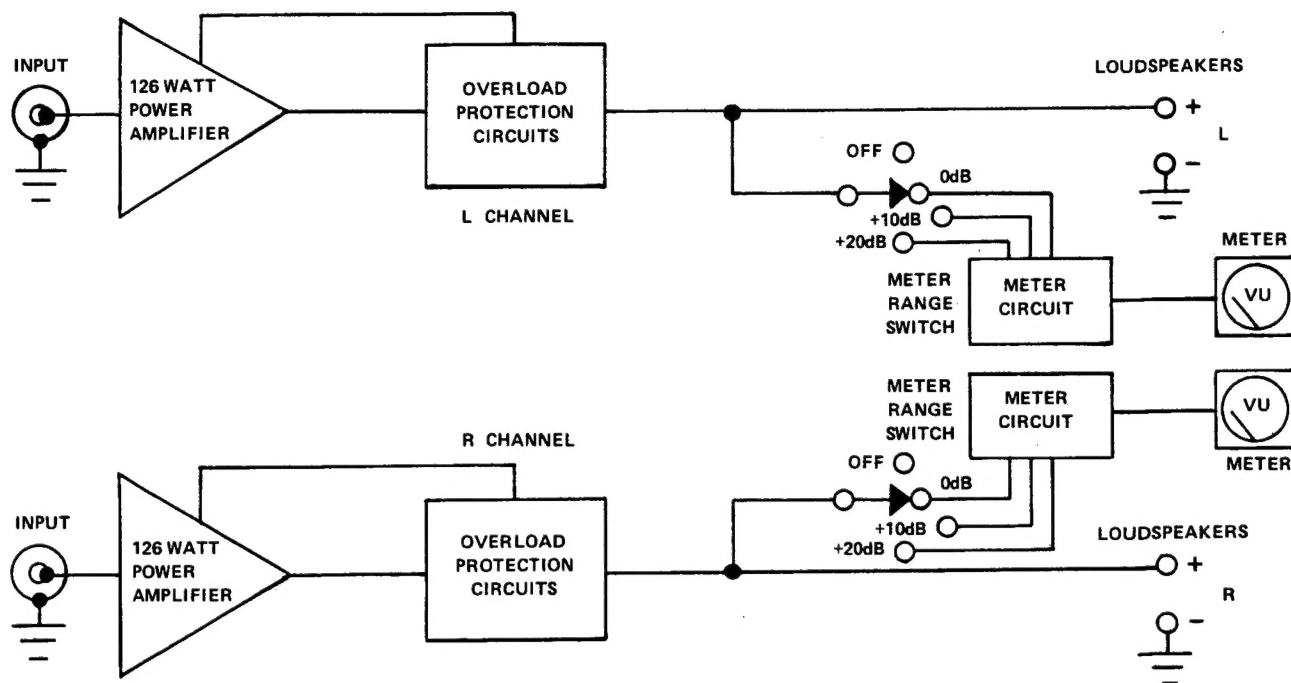
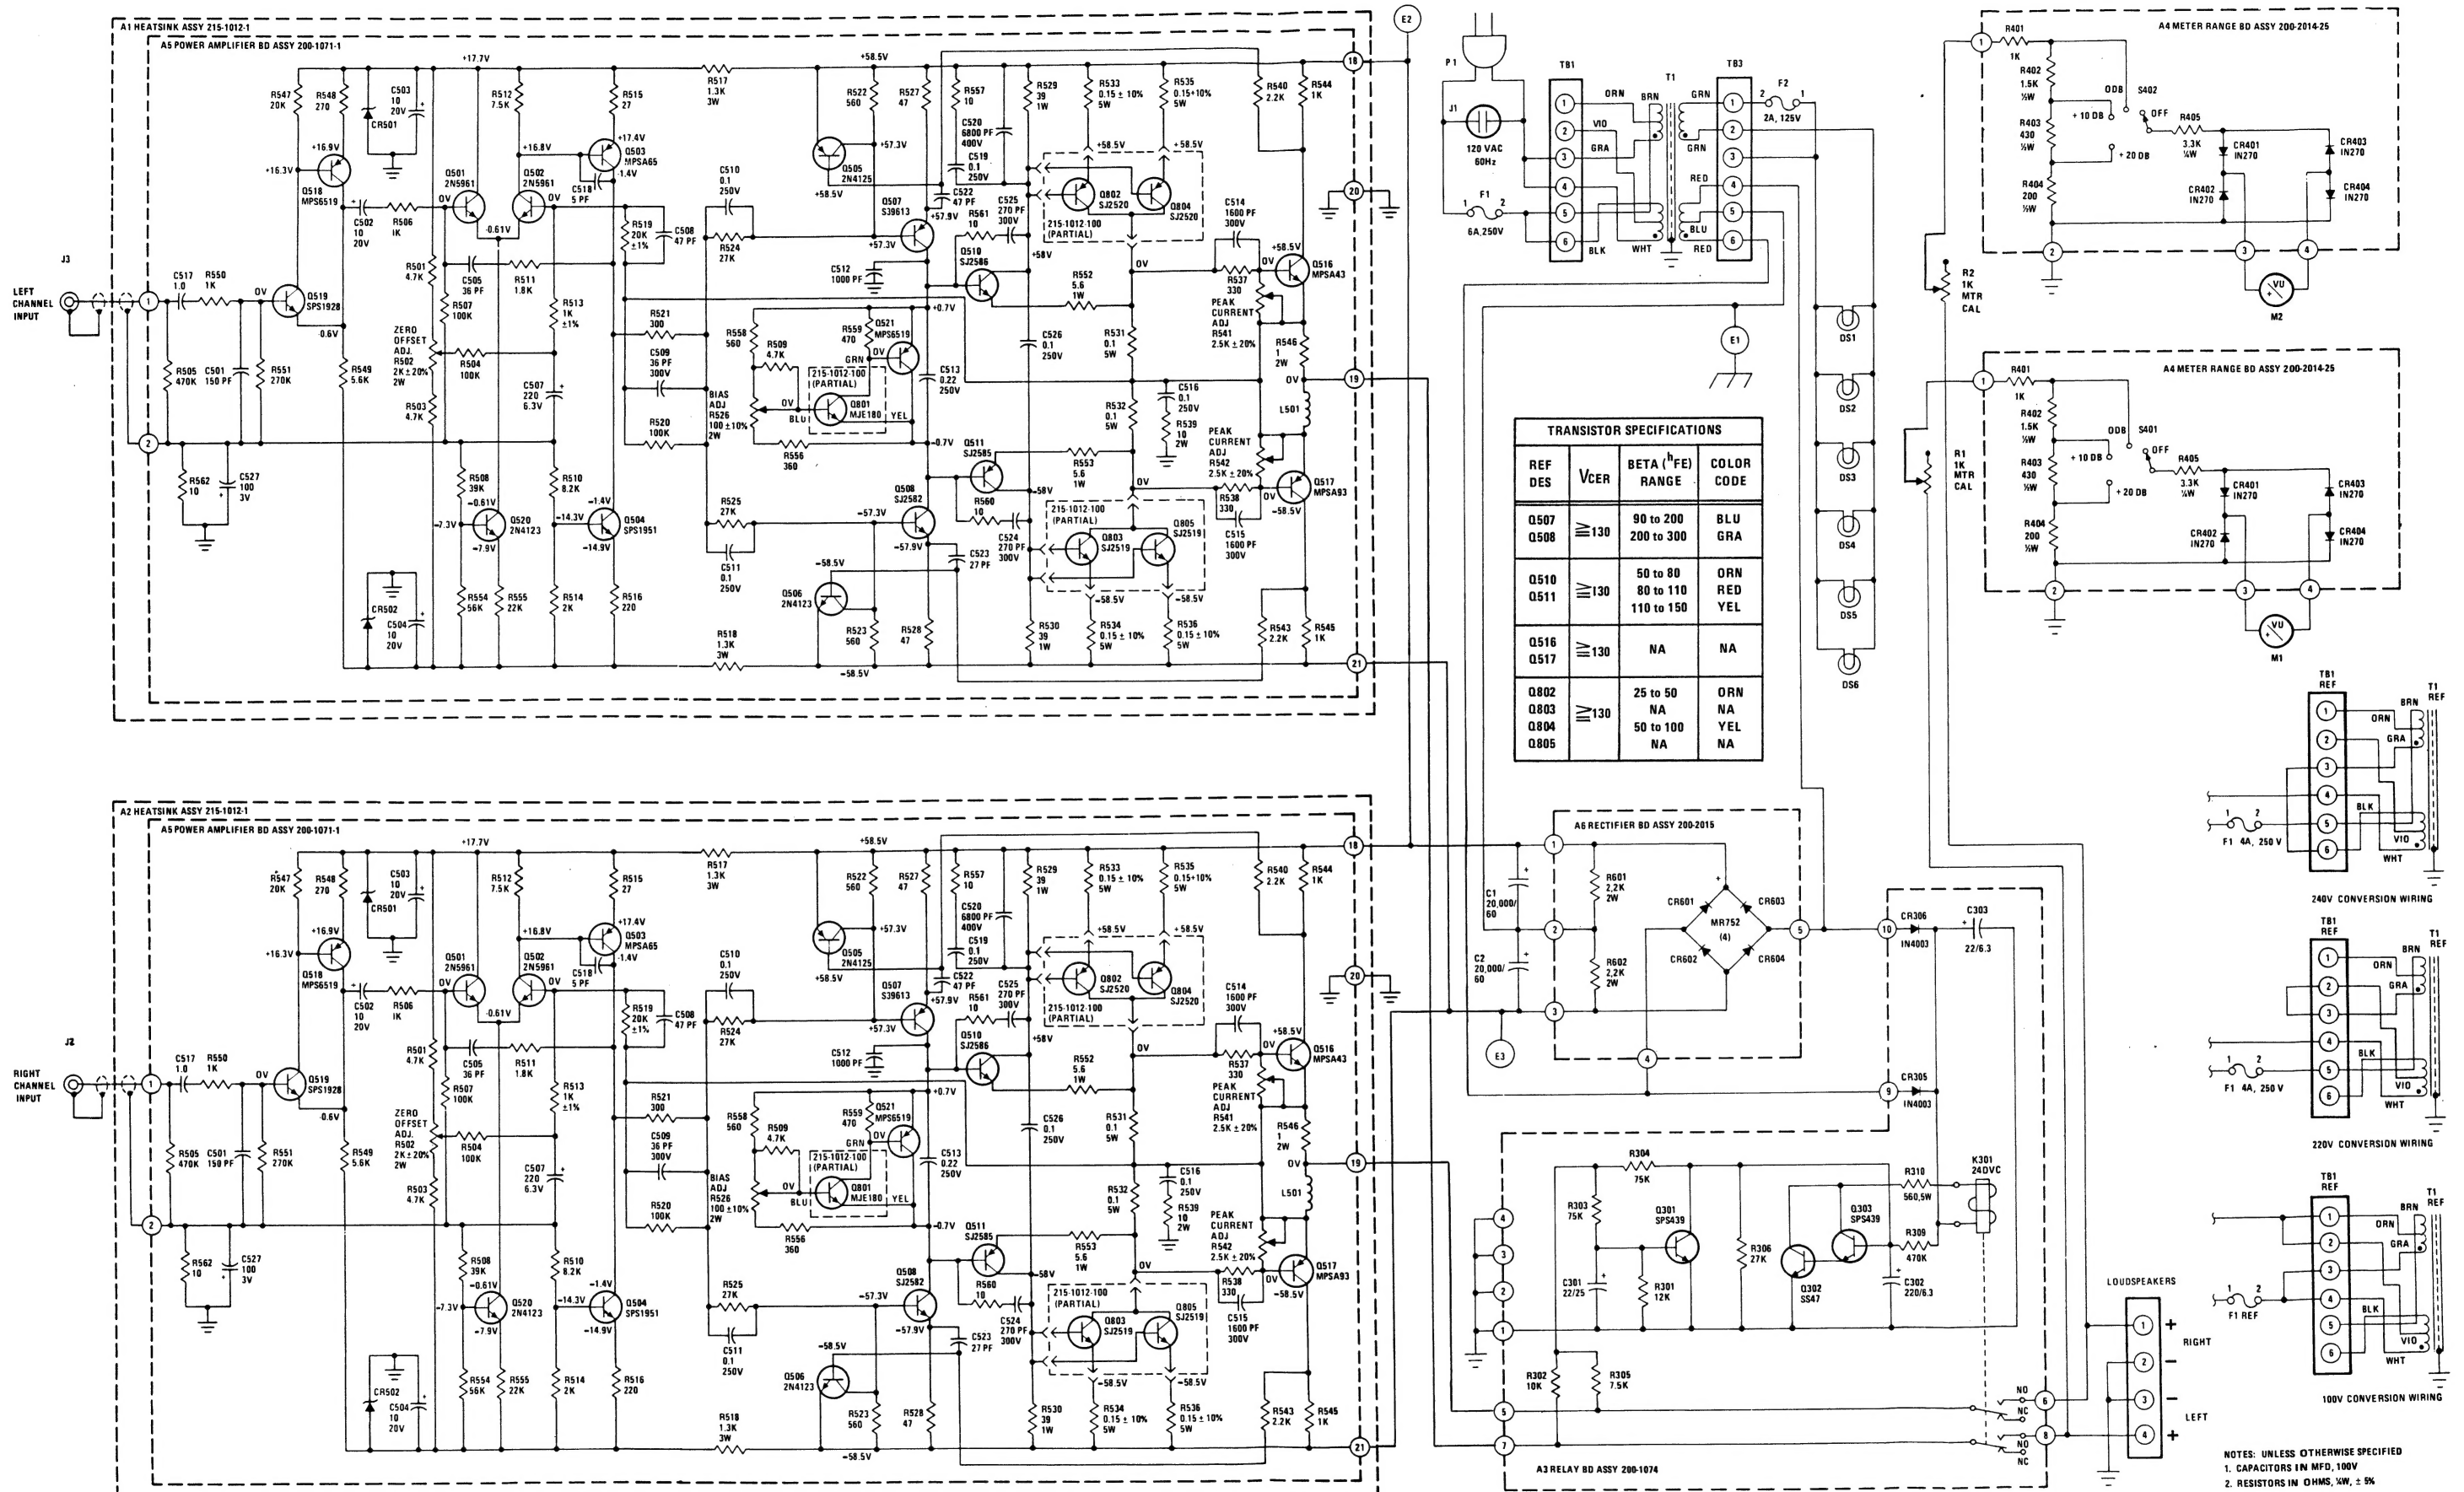
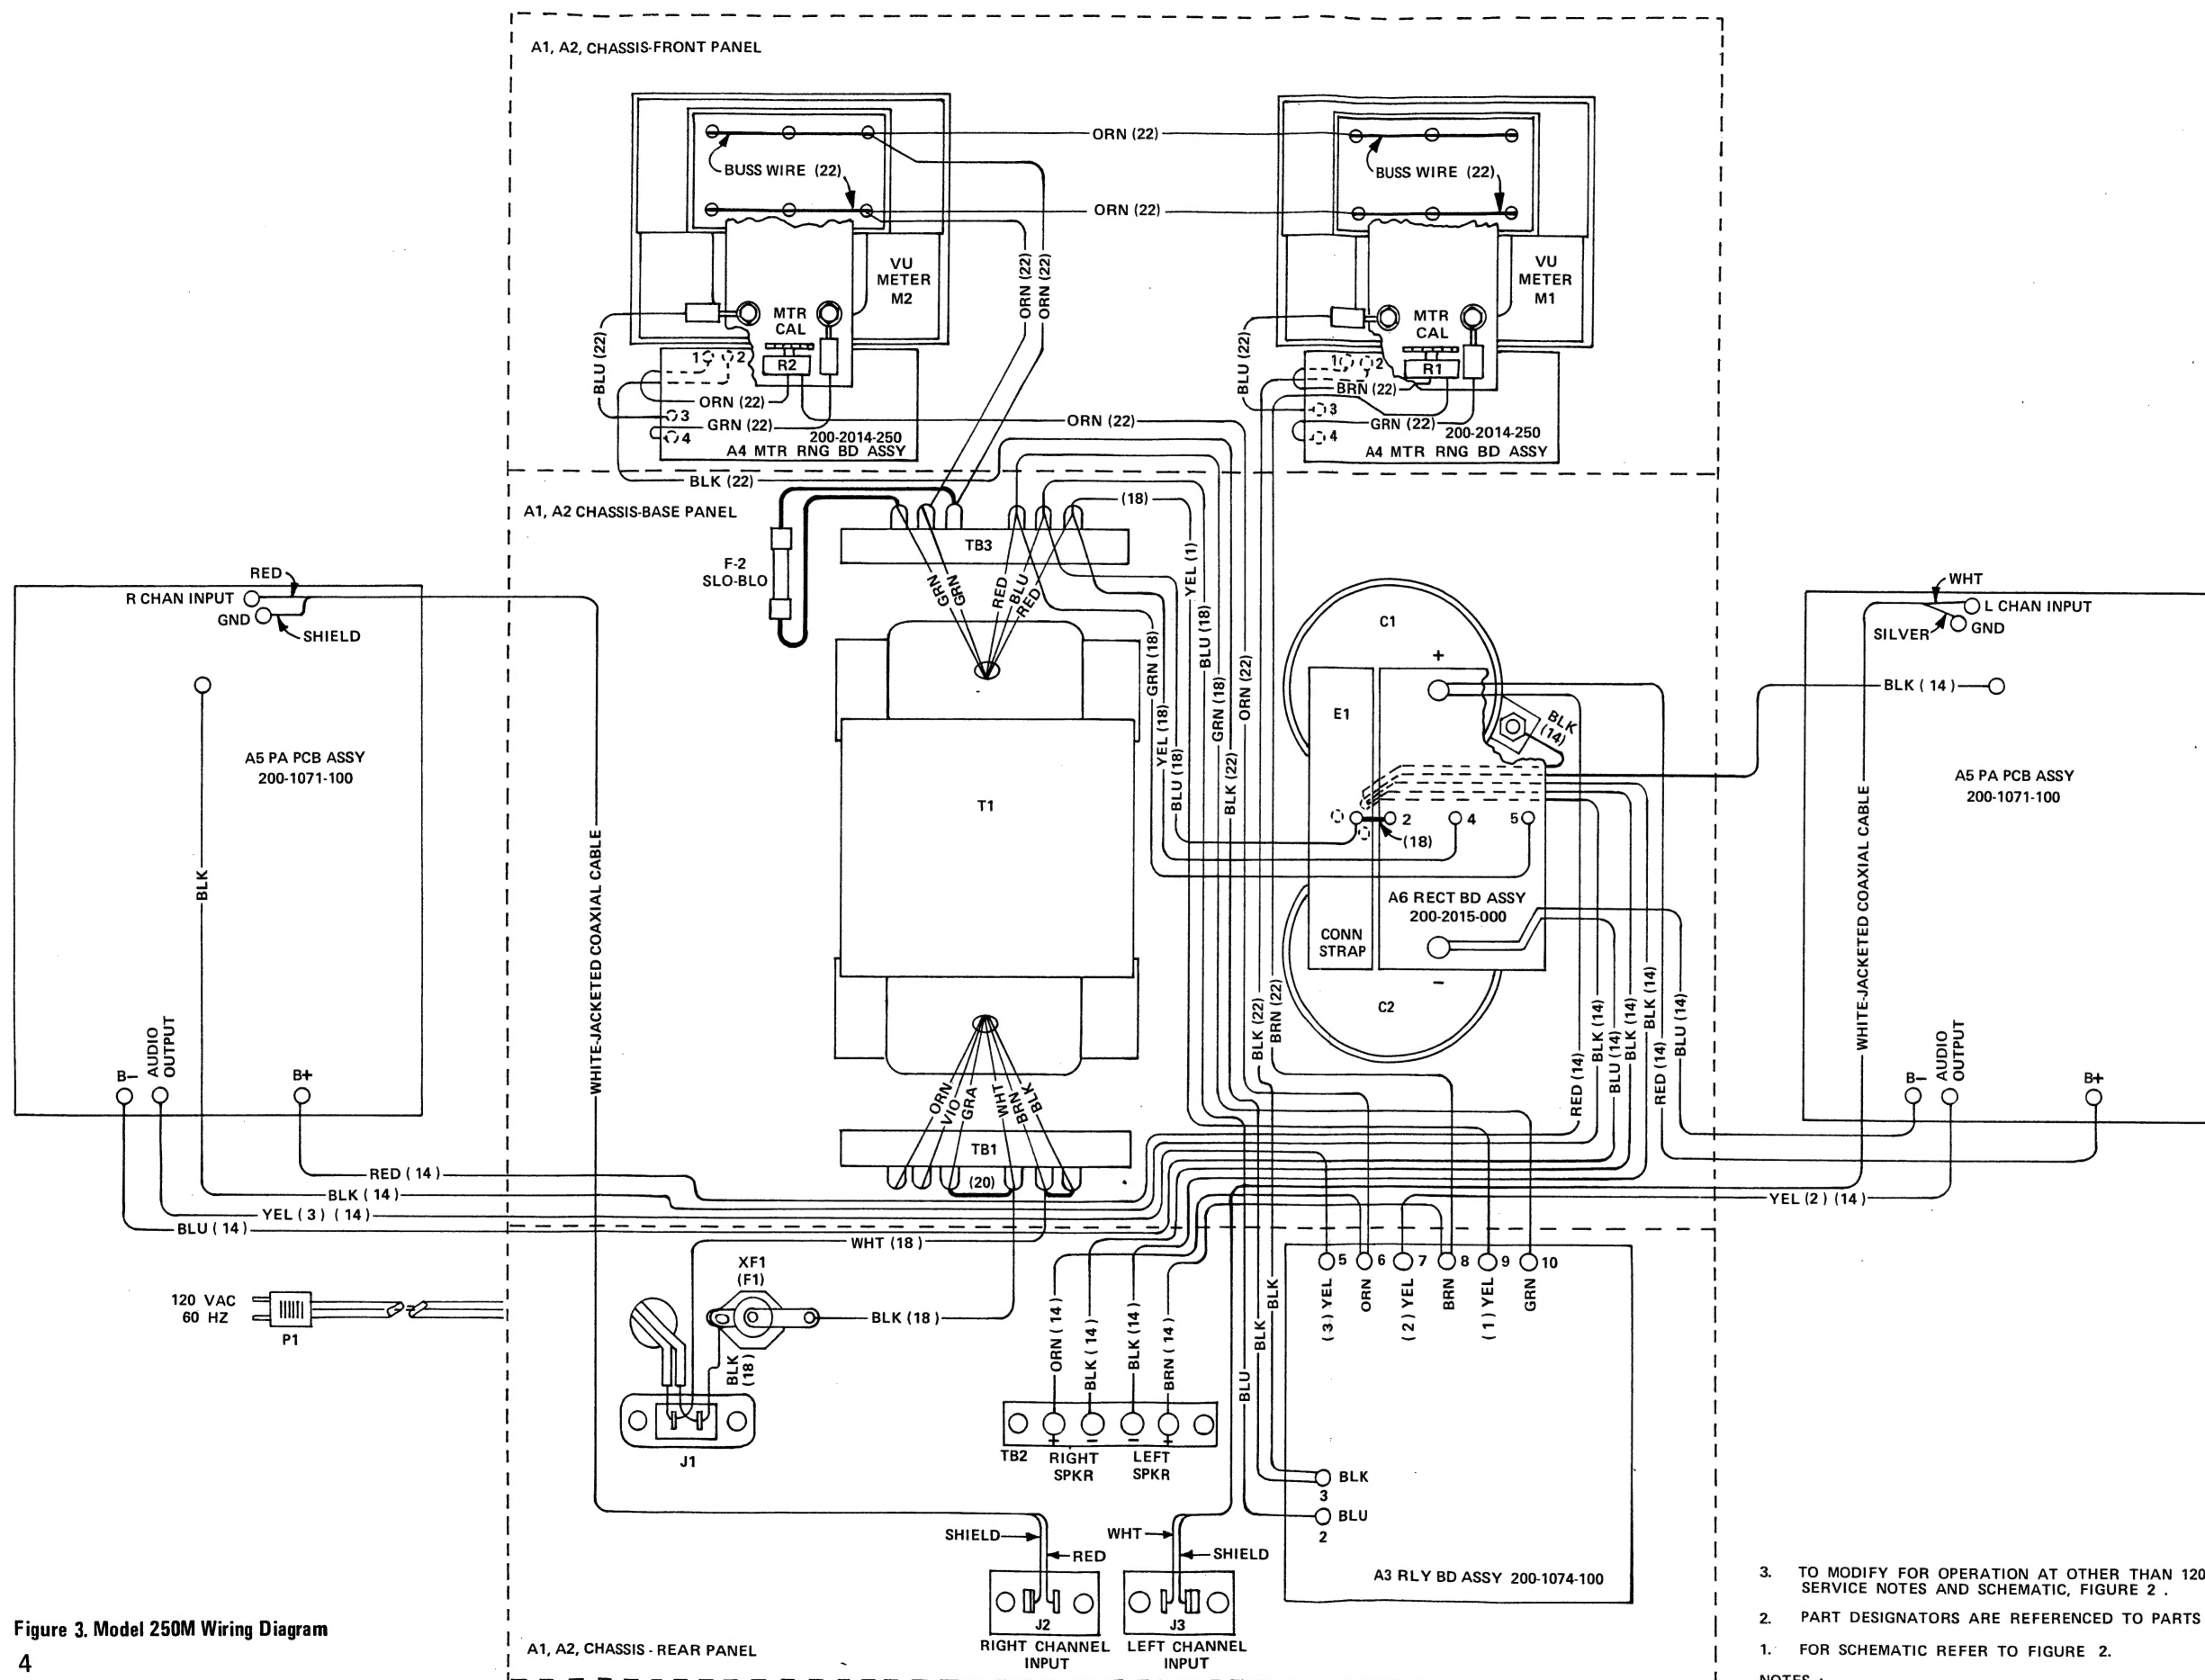

Figure 1. Model 250M Simplified Block Diagram
Figure 2. Model 250M Schematic Diagram
Figure 3. Model 250M Wiring Diagram
Performance evaluation tests and service of the Model 250M should be undertaken only by the experienced technician, one knowledgeable in solid-state amplifier operation and use of the test equipment. All instructions should be read carefully and understood fully before proceeding with any service. To better understand the functions of this amplifier, consult the Block Diagram, Figure 1, the Schematic Diagram, Figure 2, the Wiring Diagram, Figure 3, and the circuit description of the unit.
The input stage of the Power Amplifier circuit, Figure 2, is a unity gain, complementary feedback pair, (Q518 and Q519). The output of this stage is coupled through C502 and R506 to the differential amplifier (Q501, Q502), which drives an inverter (Q503) whose collector load is a current source Q504. The inverter is coupled to complementary pre-drivers (Q507, Q508). The outputs of the pre-drivers are applied to their respective drivers (Q510, Q511) which are coupled to their respective power transistors (Q802, Q804 – Q803, Q805).
The output of the Power Amplifier is applied to the wipers of relay K301 on the Relay Board, Figure 2. Relay K301 energizes after a minimum delay of two seconds after turn on. Power for Q301, Q302, Q303 and K301 is supplied by CR305 and CR306. The length of the delay is a factor of the time constant of R306, R309, and C302. This delay at turn-on is to prevent any transient surges from reaching the output terminals. Additionally, resistors R302 and R305 sample the audio output signals. Should a constant dc level more than +4.5 volts, or a high amplitude signal less than 10 Hz be present, Q301 will turn on, shorting the base of Q303 to ground. Q302 begins to discharge and K301 de-energizes. If a constant dc level more than -4.5 volts is present, the voltage drop across R304 bucks the voltage present at the base of Q303 and K301 de-energizes. The output from K301 is applied to the loudspeaker terminals.
3. Refer to Figure 2, Schematic Diagram and Figure 3, Wiring Diagram to locate detailed parts and wires referenced.
1. Set Line Switch to OFF. Preset the bias adjustment potentiometer R526 on each amplifier board fully CCW, Figure 2.